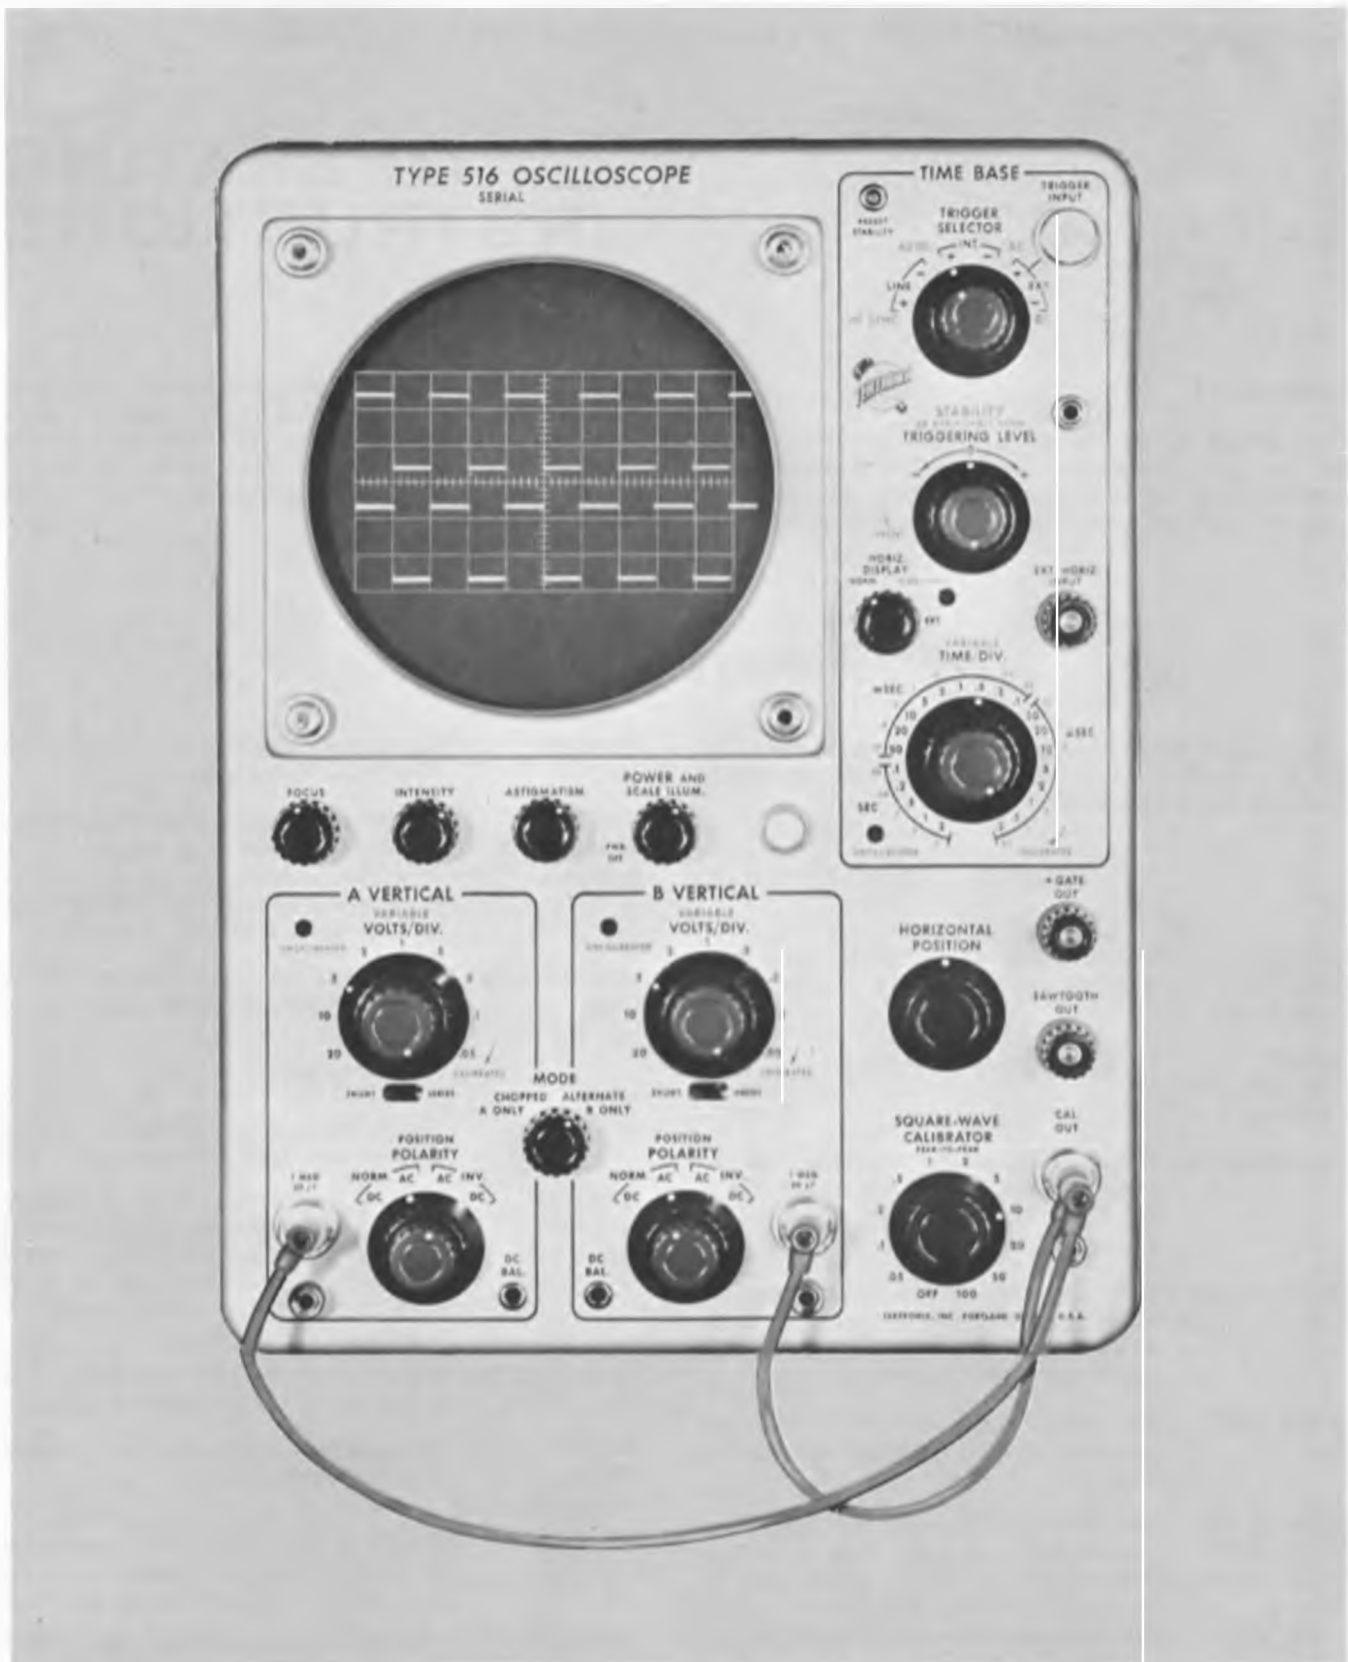

Fig. 3-1. Type 516 Oscilloscope front panel.
The front panel of the Type 516 Oscilloscope is shown in Fig. 3-1. Functions of all front panels controls, indicators, and connectors are described in Table 3-1.
1. Connect jumper wires from the CAL. OUT connector to the A and B VERTICAL Channel input connectors and set the oscilloscope controls as shown in Fig. 3-1.